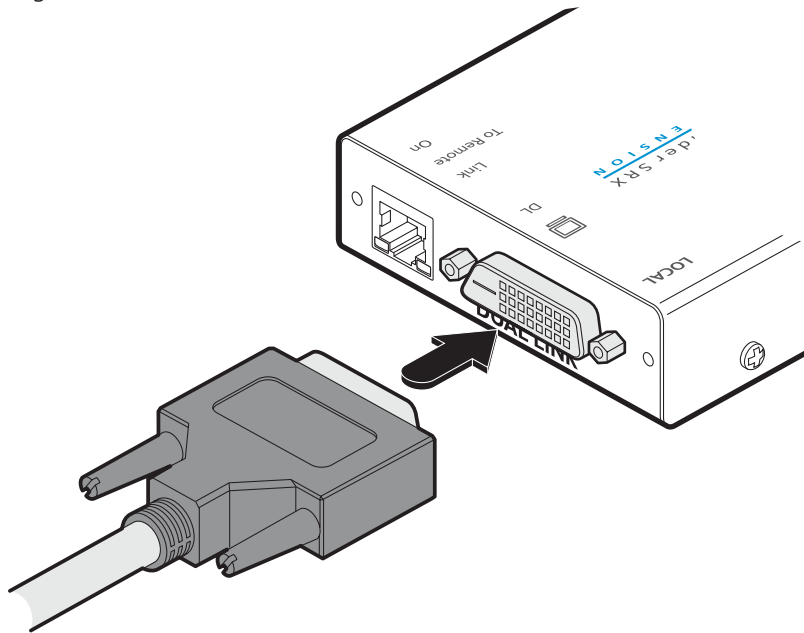

Figure 3-3. Attaching the DVI/D video link cable
- 1 Use the supplied DVI/D link cable to connect the DVI input socket of the local module to the digital video output socket of the computer as shown in Figure 3-3: